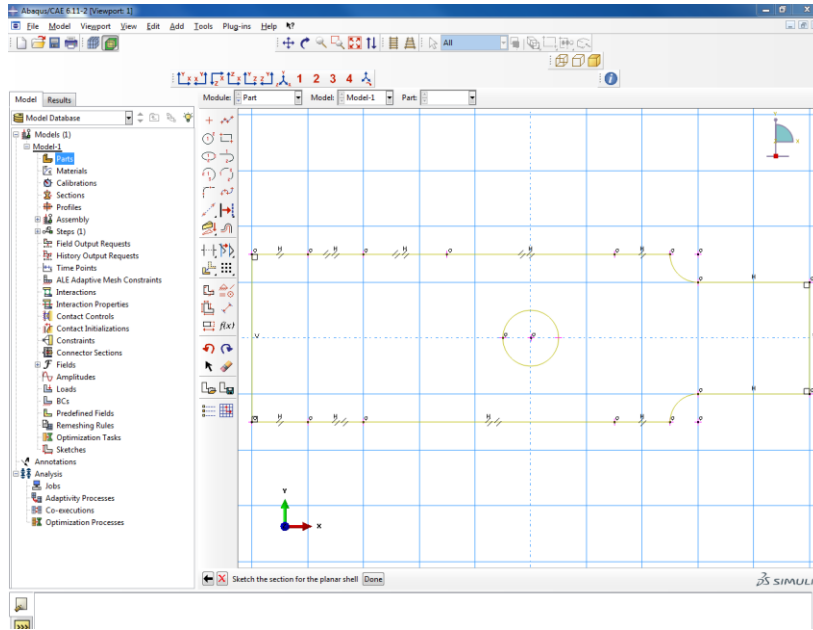

Figure 6. Geometry Complete
- The completed geometry should look similar to that in Figure 6.